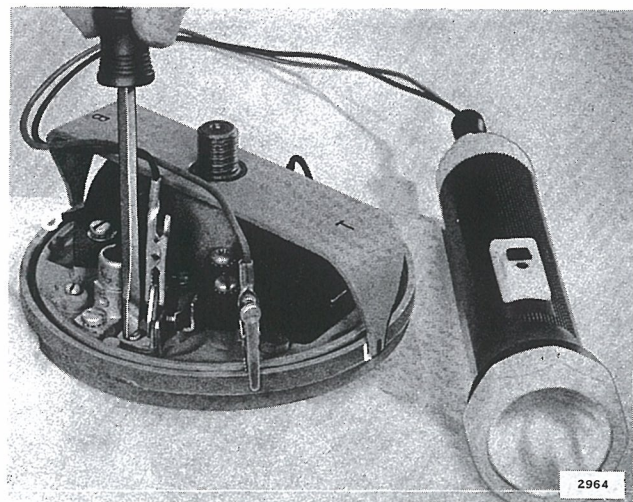

Figure 4-22. Adjusting Breaker Points
e. If timing is not correct, align the timing fixture and the first timing mark. Adjust points until the meter or light indicates a closed circuit. See Figure 4-22. NOTE: If new breaker points have been installed, adjust points to break open at the first timing mark to allow for seating of the fibre breaker block.